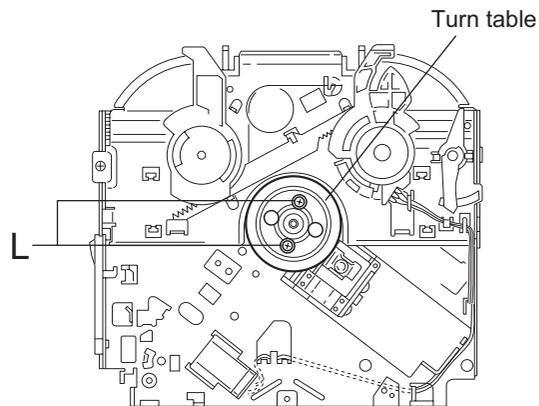

Fig.41
**(See Figs.41 and 42)**
- (1) Remove the two screws **L** attaching the spindle motor assembly through the slot of the turn table on top of the body.
- (2) Unsolder the wire on the connector board if necessary.